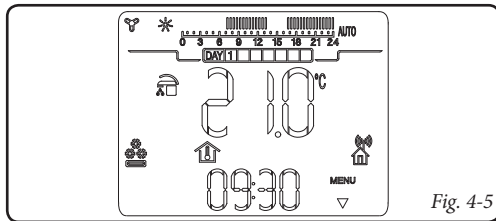

Fig. 4-5
- Cooling mode** (❄️). In cooling mode the boiler is enabled for the production of DHW and to control an external motocondensing (only for models set-up) for cooling rooms. In “cooling” mode, the CAR^{V2} can work in automatic or manual mode. For the description of operation see chapter 7. The display shows the day and current time, the room temperature and the hour bar with the daily programming of the cooling timer together with the relative symbols (Fig. 4-5).